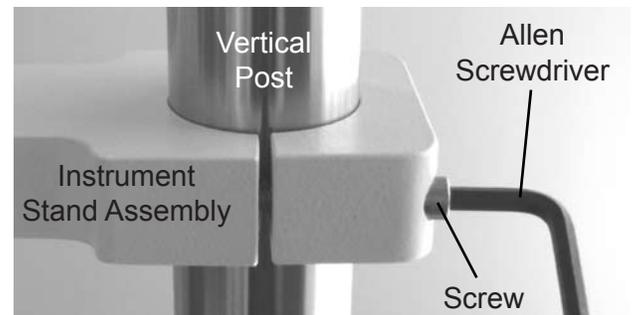

Figure IS-12 Tighten Screws
3. Using a 3/16" Allen screwdriver, secure the Front and Back with the two Screws. Refer to Figure IS-12.